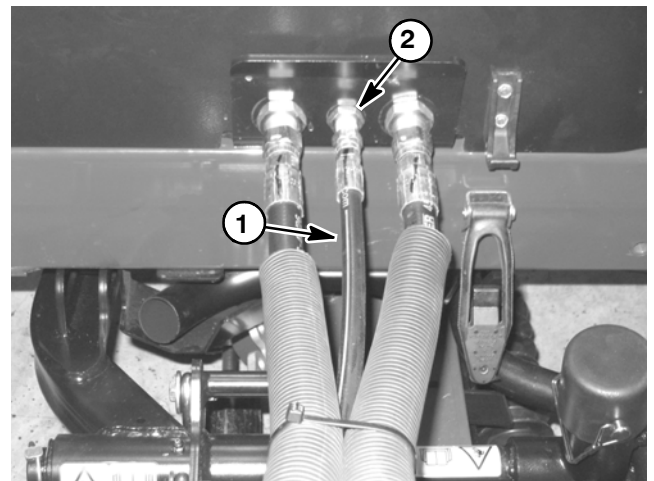

Figure 42
5. For reel motor to be tested, thoroughly clean junction of the motor case drain hose (small diameter hose) where it connects to traction unit bulkhead (not at the motor) (Fig. 42). Disconnect the case drain hose and put a steel cap on the fitting at the traction unit. Leave the case drain hose from the motor open and place open end of disconnected hose into a drain pan.